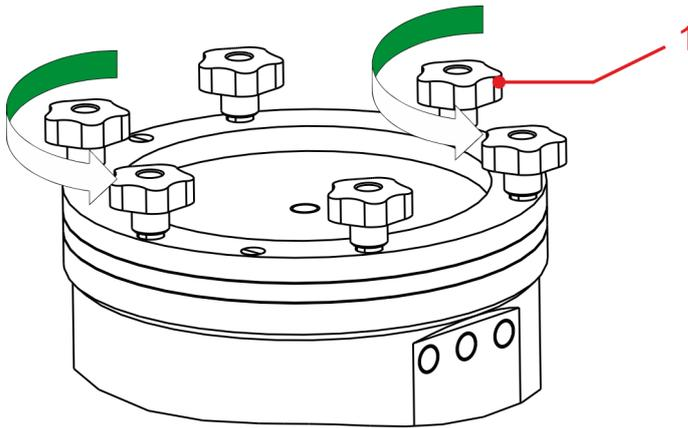

Fig. 5: Opening the lid of the vessel
1. Loosen the first two opposing grip nuts (Fig. 5, item 1) by turning each of them twice. Then loosen the next two opposing grip nuts in the same way. Following grip nuts 5 and 6, repeat the process until all the grip nuts have released the lid.
2. The lid of the pressure vessel is raised by loosening the grip nuts (Fig. 5, item 1) (max. three turns) and can be removed by loosening all the grip nuts completely.